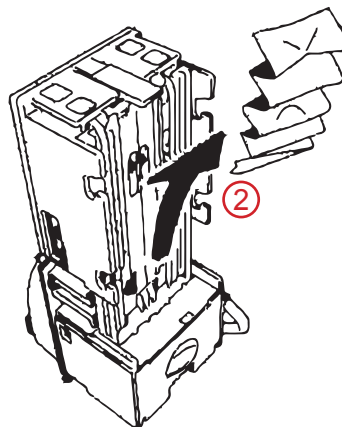

Figure 49
2. Remove the stuck banknote (see figure 49)